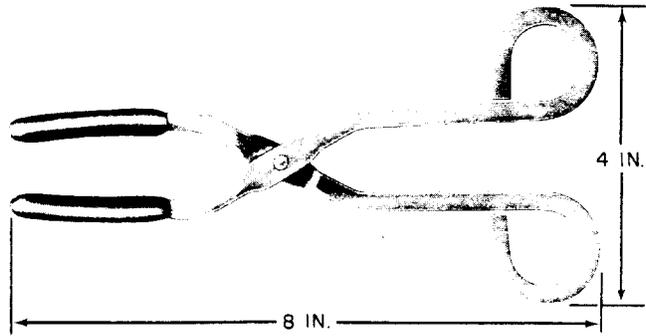

Fig. 14—General Cement Manufacturing Company No. 5092 Extractor
2.15 General Cement Manufacturing Company No. 5092: The General Cement Manufacturing Company No. 5092 extractor (Fig. 14) is used to remove and replace miniature electron tubes which have deeply recessed sockets or sockets with base-shield extensions.